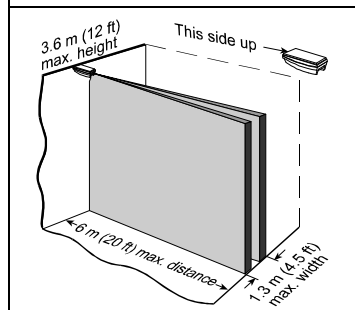

Fig. 6. CLIP-4: Ceiling-Mount Curtain
- C. When mounting CLIP-4 on the ceiling (Figure 6), the ceiling height must not exceed 3.6 m (12 ft). The maximum detection distance is 6 m (20 ft), and the curtain width at that distance is 1.3 m (4.5 ft).